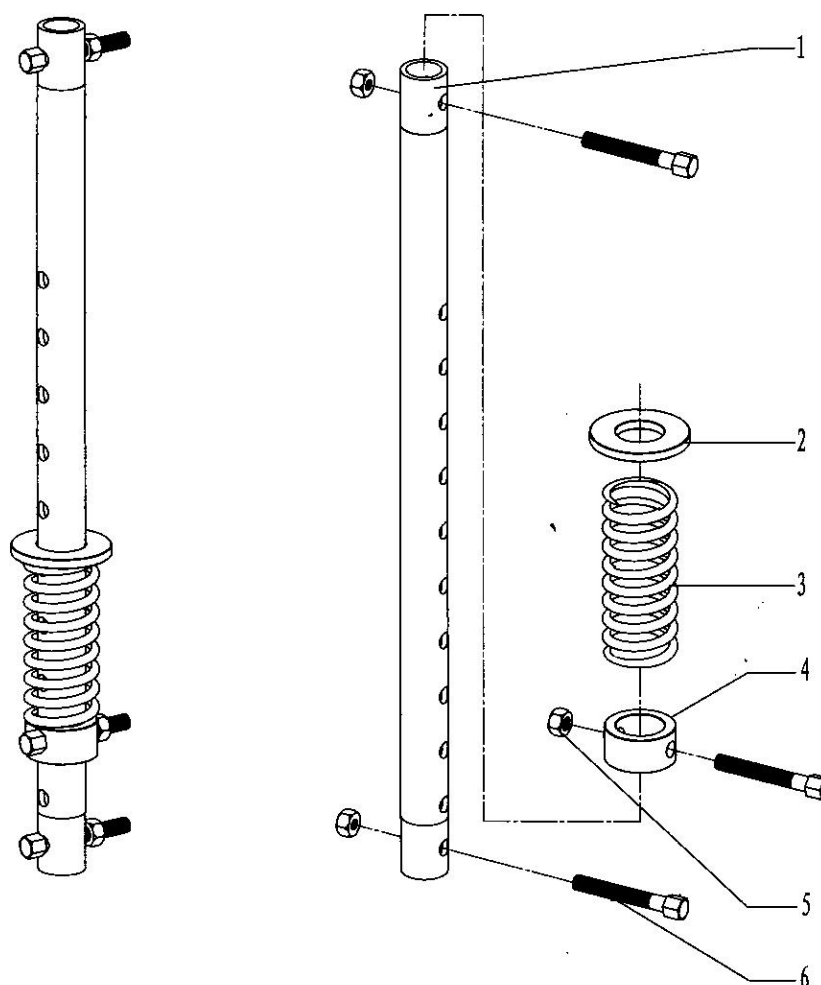

Fig. 22
22. Assembly of front guide rod (Fig 22, Table 22)